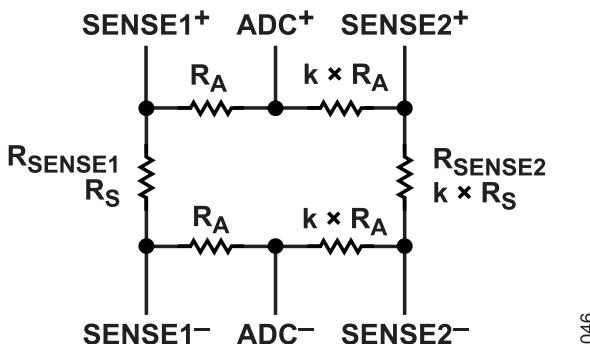

Figure 48. Weighted Averaging Current Sense Voltages
dividers. Some applications can use parallel sense resistors to achieve a specific resistance, in which case, the averaging resistors can be selected with the same ratio as the sense resistors they connect to, which allows the ADC to still measure current accurately (see Figure 48). In this case, the effective ADC sense resistor is  $R_S$  in parallel with  $k \times R_S$  for the current limit. Scaling the averaging resistors,  $R_A$ , by the same scaling factor,  $k$ , allows the ADC to measure the correct sense voltage for this effective sense resistor. The smallest averaging resistor on the ADC+ or SENSE+ side must not exceed 1 Ω.
- Configure current limit and select current-sense resistors. A 18 mV sense voltage with a 0.5 mΩ sense resistance is picked to provide 36 A for each channel. When a specific design is actually built, there can be small inaccuracies in the current sensing owing to contact and copper trace resistances. An immediate remedy without changing sense resistors is to readjust the sense voltage in 2 mV steps. For instance, moving sense voltage from 18 mV to 20 mV gives a 11% increase in current. Some designers can use parallel-sense resistors to achieve a specific resistance. In which case, the averaging resistors,  $R_A$ , must be selected with the same ratio,  $k$ , as the sense resistors they connect to (see Figure 48), which allows the current-limit circuit to measure the correct sense voltage for this effective sense resistor. The smallest averaging resistor must not exceed 1 Ω.